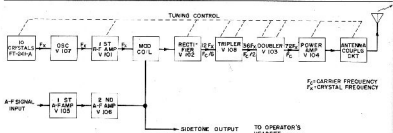

Fig. 33. Radio Transmitter BC-684-A: Block Diagram
a. Block Diagram. A block diagram of the transmitter is shown in Fig. 33.